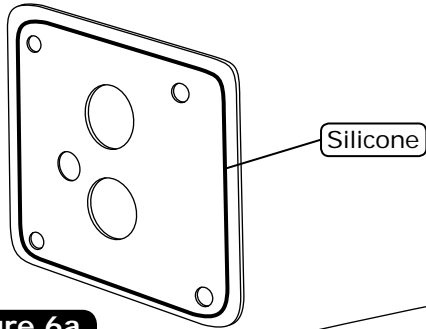

Figure 6a
2. Apply a 1/4" bead of silicone around the mating surface of the firewall cover as shown in Figure 6a, below.